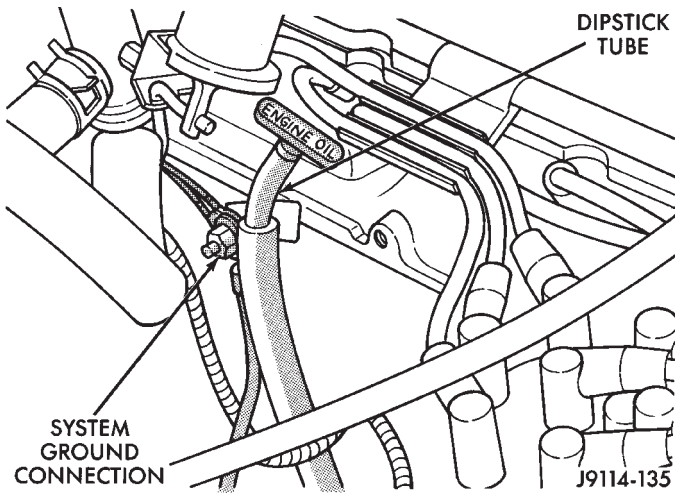

Fig. 10 System Ground Connections—Typical
(7) Inspect the system ground connections at the cylinder block behind the engine oil dipstick tube (Fig. 10).